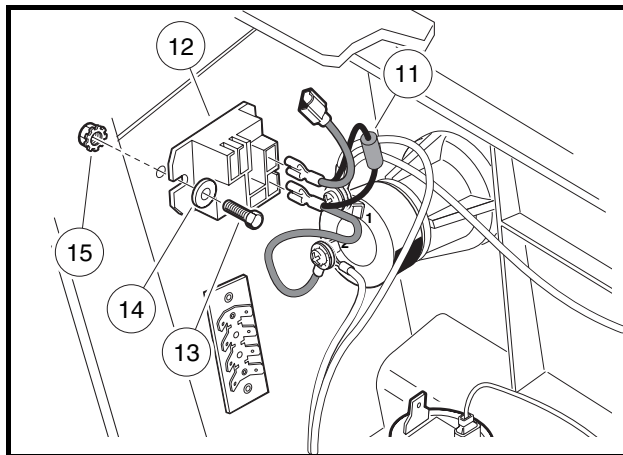

Figure 12-19 Brake Light Relay
3. Remove the two voltage suppressor wires (11) from the coil terminals of the brake light relay (12) (**Figure 12-19, Page 12-20**).
5. Remove the two nuts (15), two screws (13), and two washers (14) from the brake light relay (12).
1. Secure the brake light relay (12) to the vehicle frame as shown with two screws (13), two washers (14), and two nuts (15) (**Figure 12-19, Page 12-20**). Tighten nuts to 30 in-lb (3.4 N·m)
2. Connect the two wires from the voltage suppressor (11) to the coil terminals on the brake light relay (12) as shown.